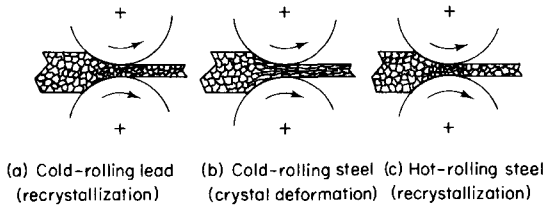

Fig. 2.69 Effects of hot and cold rolling
**Recrystallization.** When a piece of lead is squeezed between a pair of rolls (Fig. 2.69 (a)) the act of squeezing it causes the original crystal structure to break down and be replaced by a fresh one. The lead has recrystallized itself. For this reason lead remains soft after squeezing,
Steel and other metals, however, will not recrystallize in the cold state (Fig. 2.69(b)). The action of rolling them causes the crystals to elongate as shown in the
After cold work, however, the metal can be made to recrystallize under the action of heat alone. When the crystal structure of the metal has been distorted, heating it puts the metal back into its original state of softness and ductility by causing a fresh crystal structure to be formed (Fig. 2.69 (c)). When drawing wire by pulling it through a succession of smaller and smaller holes to reduce its diameter, the wire finally becomes so hard and brittle that further drawing is impossible. The wire must be heated to cause it to recrystallize and hence soften. Sometimes we can combine these two operations and bring about recrystallization by hot working. Hot rolling of steel has the same effect on the crystal structure as the cold rolling of lead.